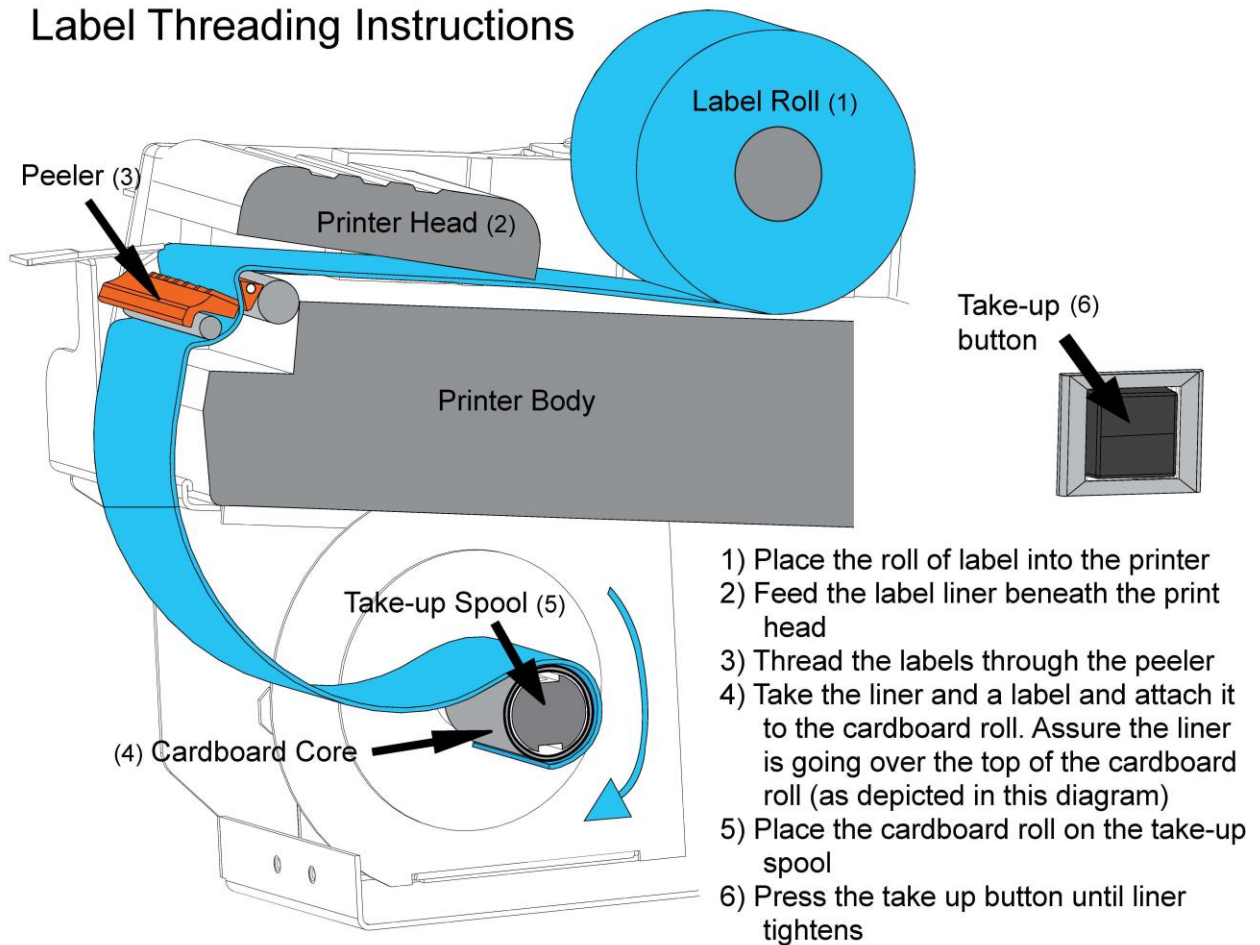

Figure 2. Intake Guide
3. Feed the lidding materials up around the printer in-take guide and pull some Lid Stock through the printer (Figure 2)
4. Remove two (2) Lids from the roll (keep at least one of them for a future step).